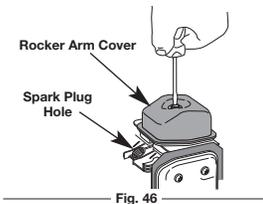

Fig. 46
- Remove the air filter (Fig. 46).
5. Clean dirt from around the rocker arm cover. Remove the screw holding the rocker arm cover with a large flat blade screwdriver or Torx T-25 bit (Fig. 46). Remove the rocker arm cover and gasket.
- The piston is at the top of its travel while looking in the spark plug hole (Fig. 46).